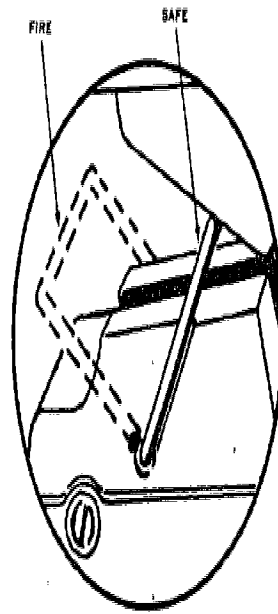

Figure 5. The M57 firing device safety bail.
a. **Electrical Firing.** When the M18A1 is armed, actuating the M57 firing device handle (fig. 5) with the safety bail in the FIRE position provides sufficient electrical energy to detonate the M6 electric blasting cap. The detonation of the blasting cap, in turn, sets off the high explosive charge (composition C4). Detonation of the high explosive charge causes fragmentation of the plastic matrix and projects spherical steel fragments outward in a fan-shaped pattern (fig. 4). This mine is sufficiently waterproof to function satisfactorily after having been submerged in salt or fresh water for 2 hours.